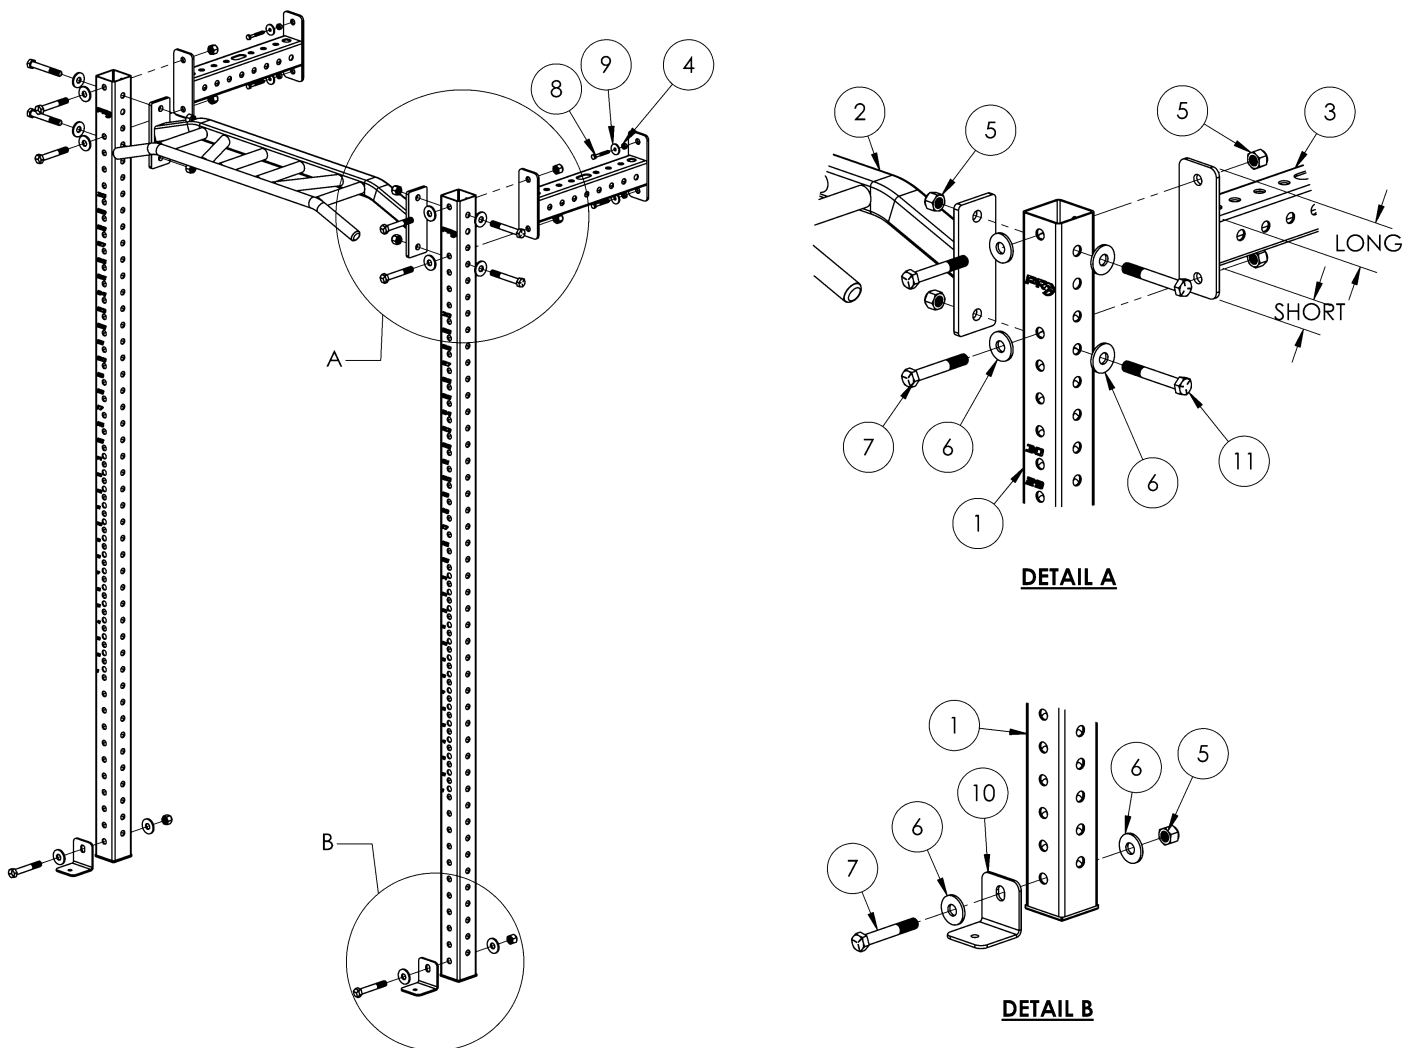

Figure 1
1. Attach Crossmembers (3) to the back side of Uprights (1) with the hardware shown. **Figure 1**
5. Attach L - Feet (10) to the bottom of the uprights (1) if you haven't already. **Figure 1, Detail B**
8. Attach J-Cups (12) onto your uprights.